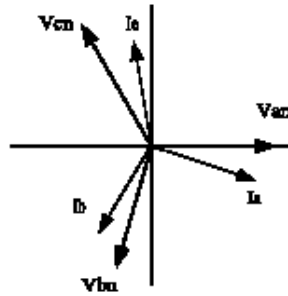

Fig 1.2: Phasor Diagram Showing Three-phase Voltages and Currents
- The three voltages are separated by  $120^\circ$  electrically. Under balanced load conditions with unity power factor the currents are also separated by  $120^\circ$ . However, unbalanced loads and other conditions can cause the currents to depart from the ideal  $120^\circ$  separation. Three-phase voltages and currents are usually represented with a phasor diagram. A phasor diagram for the typical connected voltages and currents is shown in Figure 1.2.